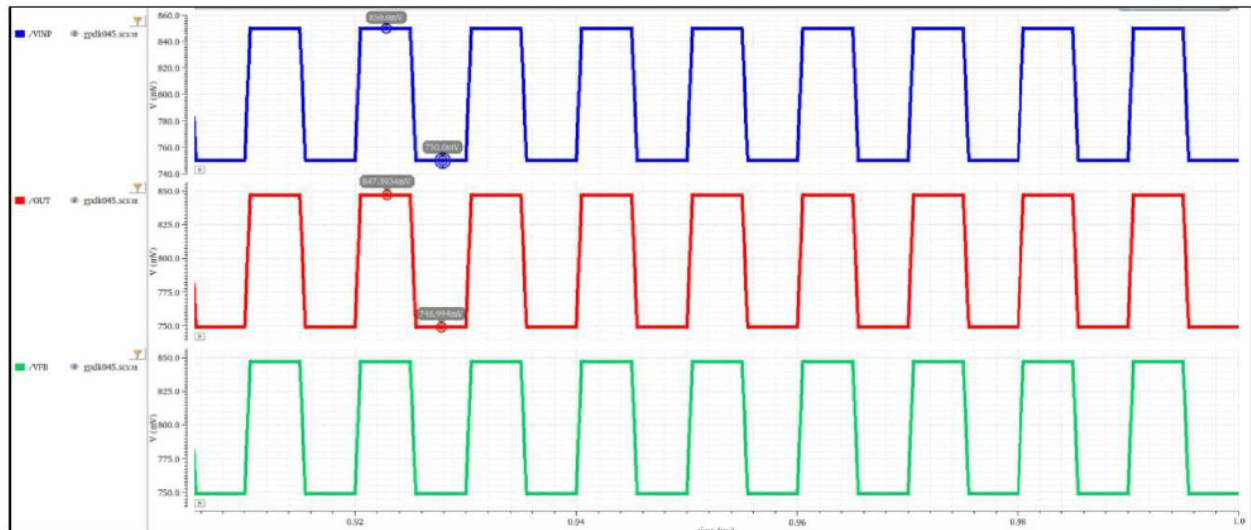

Figure 21. The result of TRAN analysis
- **Figure 21** shows the result of the transient analysis with a pulse response. The input voltage is **100mVpp**, but the buffer output is **98.4mVpp**, a drop of **1.6mVpp**.